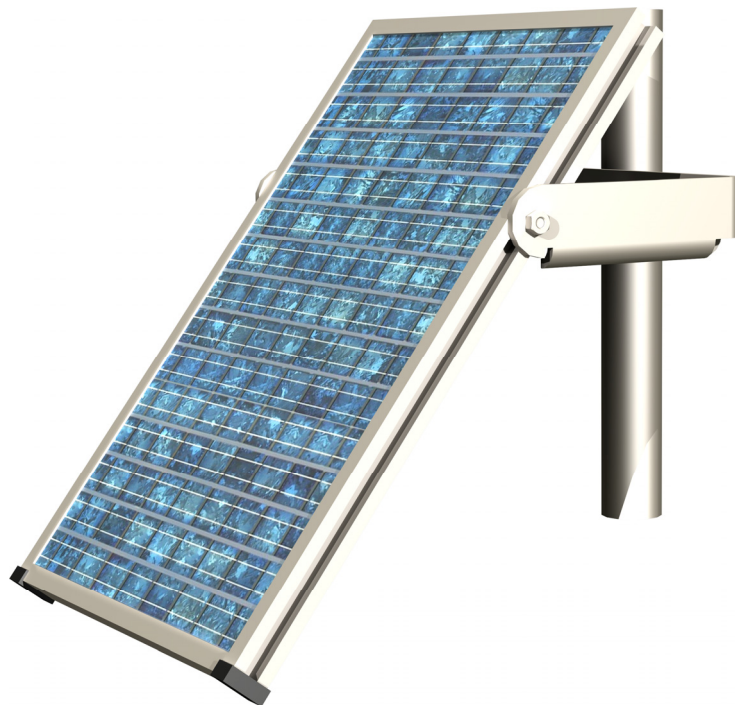

FIGURE 3-5. SP10 Solar Panel
1. Mount the solar panel to the mast, facing south (northern hemisphere). Position the solar panel at the top of the 1 1/4 inch diameter section of the mast. Install using its mounting hardware (see FIGURE 3-5).